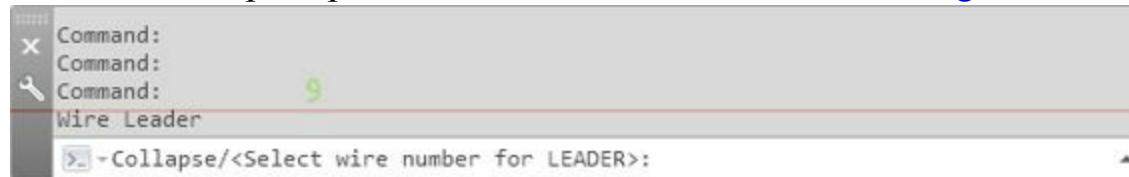

Figure-32. Command prompt for wire numbers
- Click on the **Wire Number Leader** tool from the **Wire Number Leader** drop-down in the **Ribbon**. You will be prompted to select a wire number; refer to Figure-32.